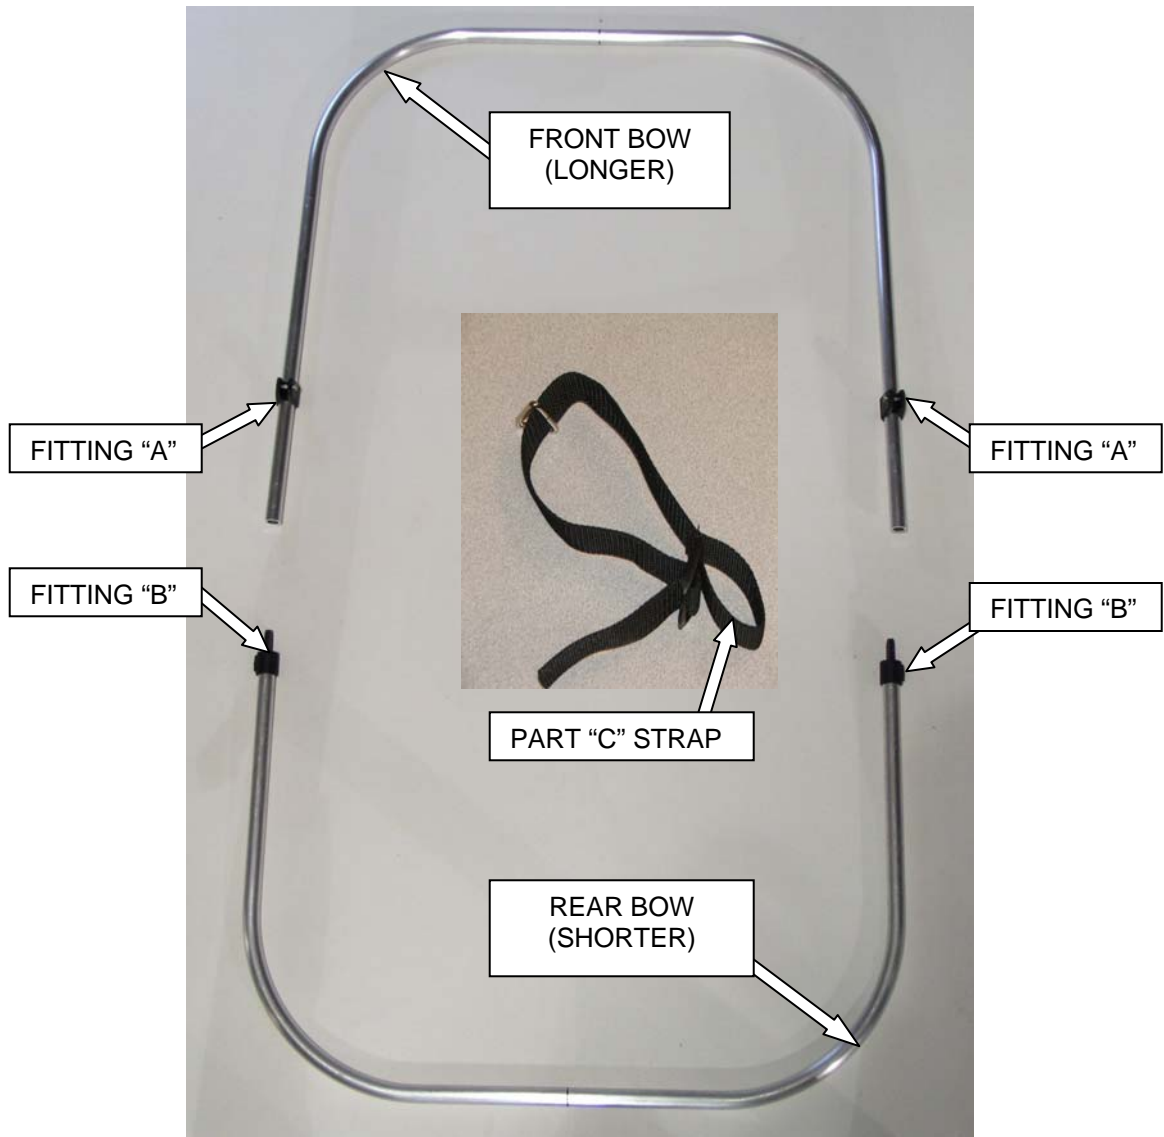

FIGURE 1
1. Remove contents from box and lay out the pieces shown in figure 1.
3. Find the front of the Bimini canvas (the tag(s) will be at the back) and slide the front bow through the front pocket with the plastic fitting (A) pointing towards the Bimini canvas.
5. Take the straps (C) and slide the sewn loops with the cinch-loc on to the ends of the rear bow just past the fittings (B).
6. Remove screw from fitting (A). Align holes on fittings (A) and (B) and re-install screw.